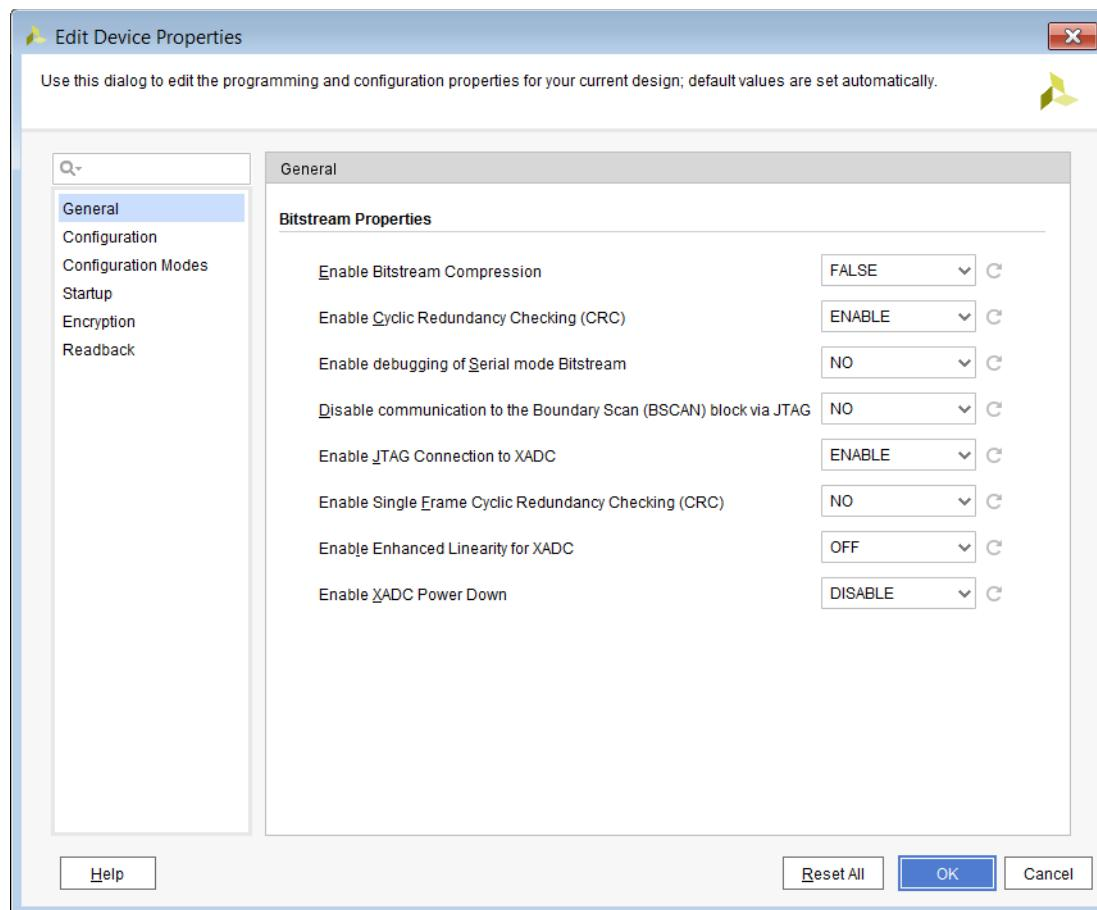

Figure 3-2: Edit Device Properties
2. In the **Edit Device Properties** dialog, select one of the categories in the left-hand column (see Figure 3-2).